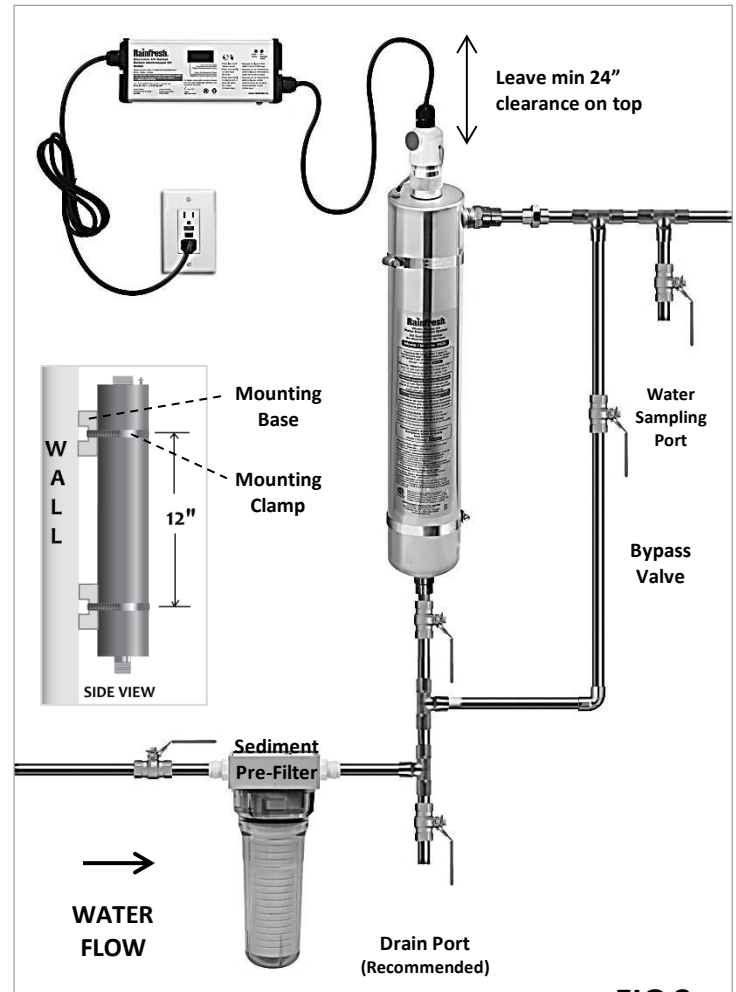

FIG 3
1. Open the UV Mounting Hardware bag (4033)(See **Parts List** page 10): Slide a mounting clamp under a mounting base and screw the base on to the wall (wall stud) with base screws as shown in Fig 3 & Fig 3 side view. Use appropriate wall anchors if not installing on wall stud.
4. Mount the ballast (R830B2) on the wall slightly above the chamber with ballast mounting screws (4044) (see Fig 3).
5. Install new plumbing using Fig 3 as reference of how the final installation should look. The inlet/outlet connections on the UV are 3/4" MNPT.
6. If you intend to drain the UV during winter to prevent freezing, install a 3/4" copper tee at the inlet of the UV and plumb in a ball valve and a piece of copper pipe (See Fig 3).
7. Carefully unpack UV lamp (R519L/R830L) and quartz dome (R519QD/R830QD). **Note: Hold lamp and dome by the ends with soft, dry gloves or cloth.** The gland nut O-ring (515) is in the groove of the gland nut (factory-installed) and the dome O-ring (4032) is in a separate plastic pack.